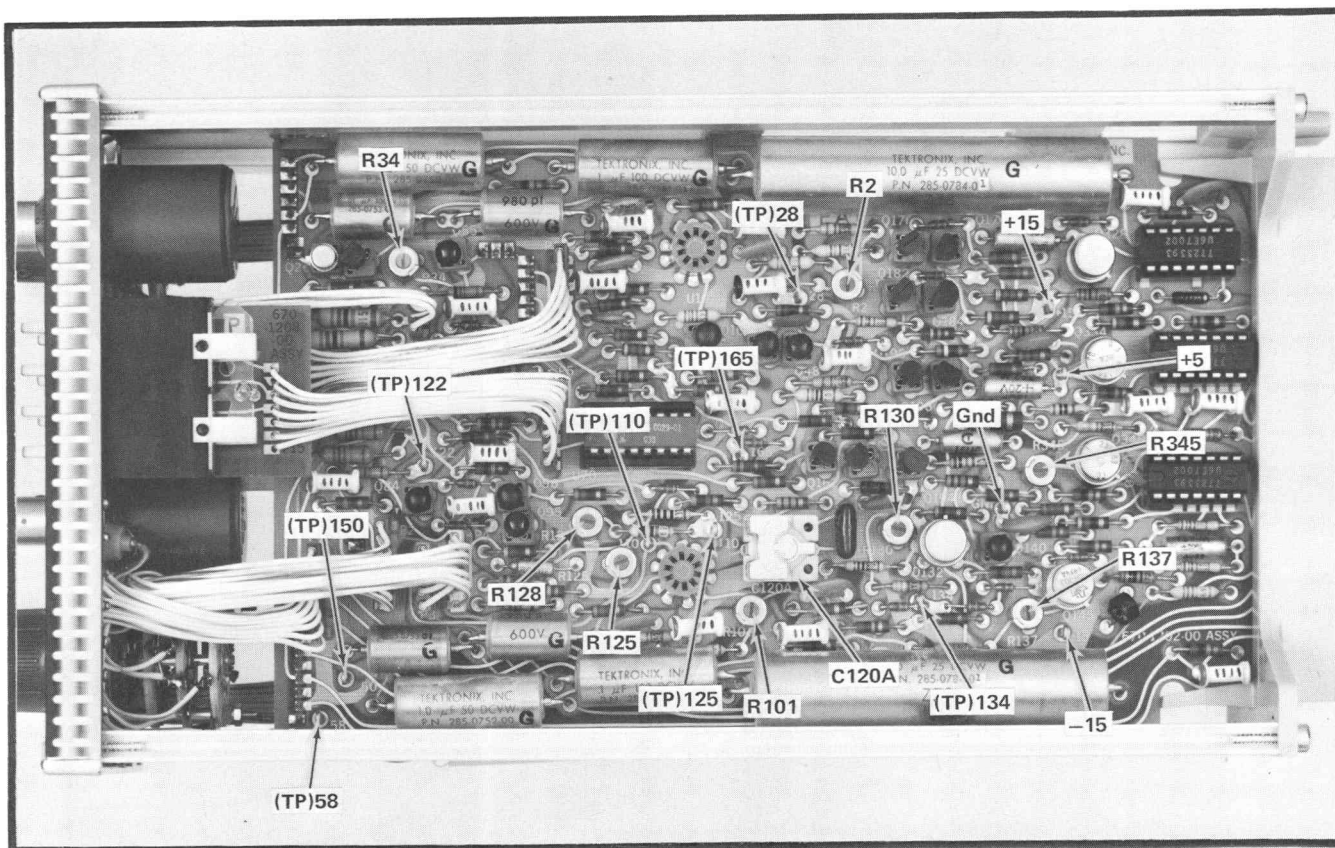

Fig. 5-5. Location of internal adjustments.
- Connect a 1X probe from Differential Comparator +Input to -15-volt Test Point (location shown in Fig. 5-5).
- ADJUST—R101 (see Fig. 5-5 for location of internal adjustments) to terminate the ramp on the leading edge of the 10th time mark.
5. Adjust Multiplier Linearity (R128) ①
- Connect a 1X probe from Dual Trace Amplifier, CH 1, to TP110. See Fig. 5-5 for test point location.